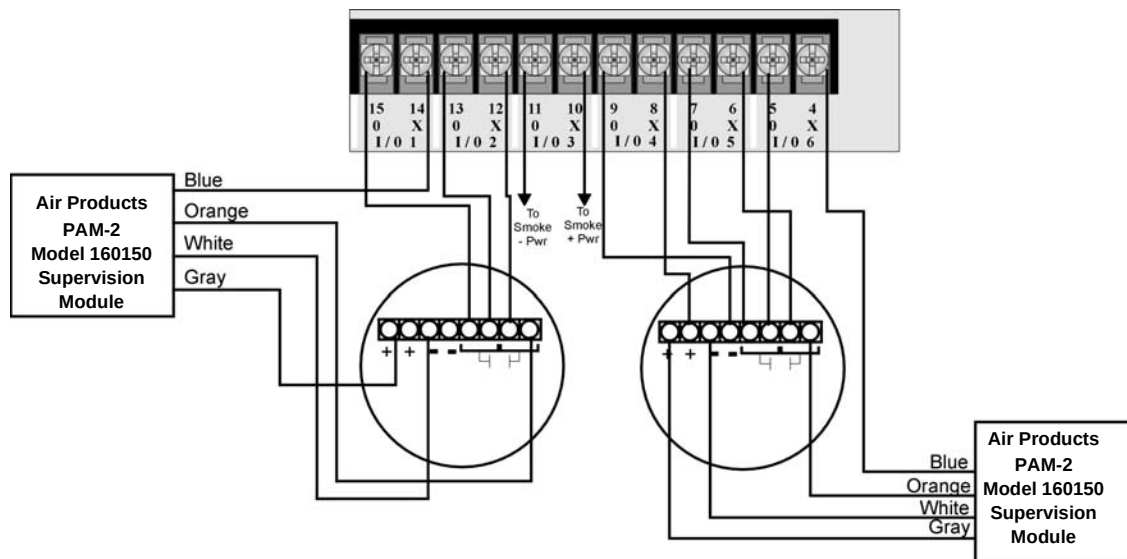

Figure 3-15 Class A 4-Wire Smoke Detector Connections
Figure 3-15 illustrates how to install 4-wire Class A detectors.
2. Smoke power is supplied to each Class A loop as shown in Figure 3-15.
Note: In programming any point that uses multiple I/O circuits are always referred to as the lowest I/O circuit number used. For example, Figure 3-15 uses I/O circuits 1, 2, 3 together and 4, 5, 6 together. In programming (1, 2, 3) would be referred to as point 1, and (4, 5, 6) would be referred to as point 4.